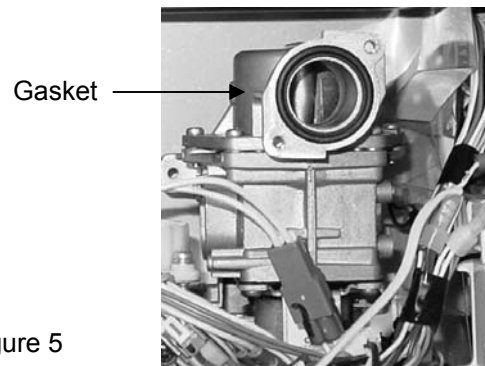

Figure 5
15. Replace the circular gasket (included in kit) in the gas valve. Make sure that the ribbed side faces toward the manifold and that the flat side faces toward the gas valve. (Figure 5)